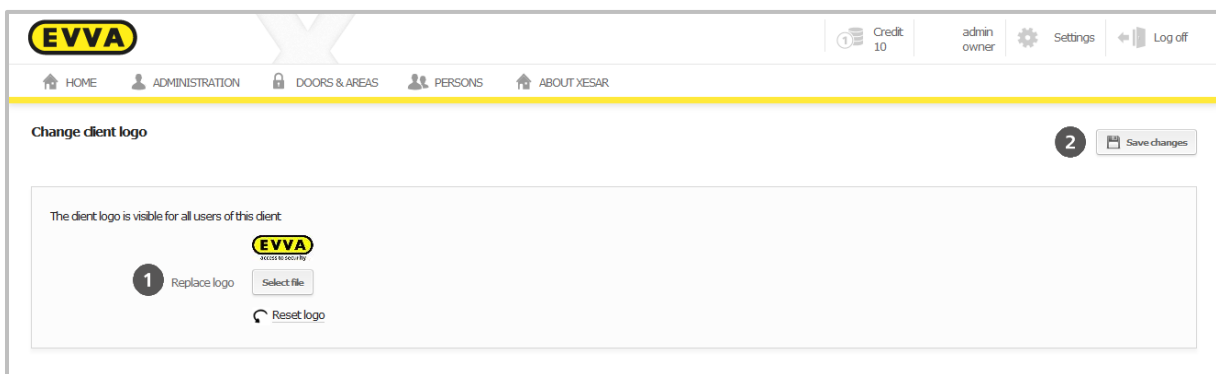

Figure 57: Changing the client logo
- **Select file 1** (Figure 57: Changing the )
- Click **Save changes 2** (Figure 57: Changing the )